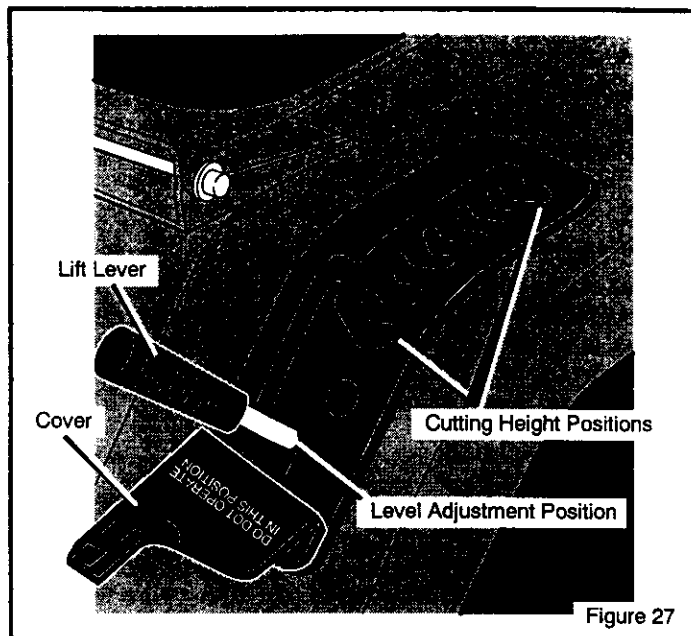

Figure 27
5. Move the lift lever to the LEVEL ADJUSTMENT position (Figure 27).